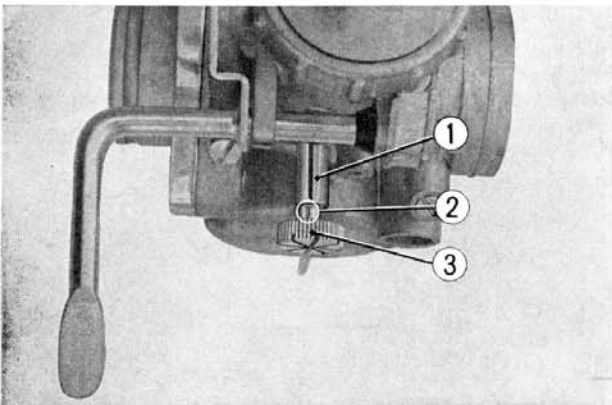

Fig. 6-13 ① Index mark ③ Throttle stop screw
- c. Adjust the throttle stop screw to align the "T" mark to the index mark stamped on the carburetor body. Perform adjustments on all carburetors. (Fig. 6-13)